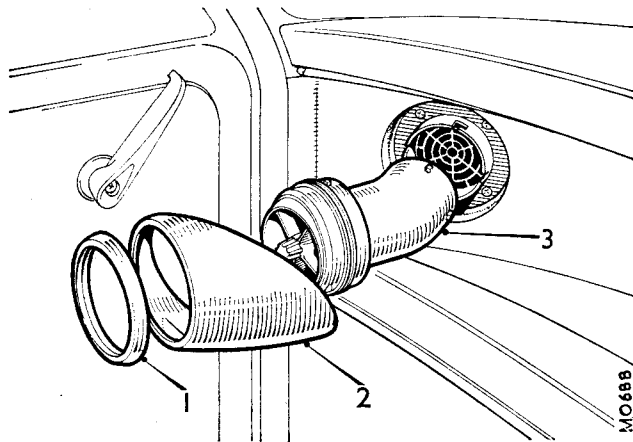

Fig. Rb.2
- (1) Unscrew the louver moulding retaining ring and remove the moulding (Fig. Rb.2). Turn the ventilation louver anti-clockwise and withdraw it.